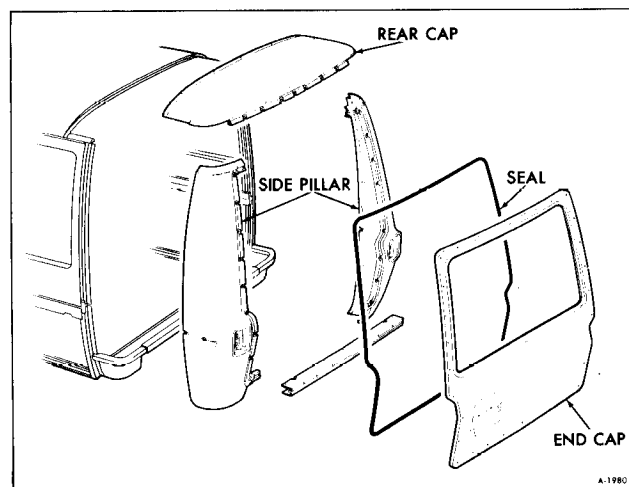

Figure 30—End Cap Components
3. Remove end cap to body retaining screws (32) from end cap (See figure 30).